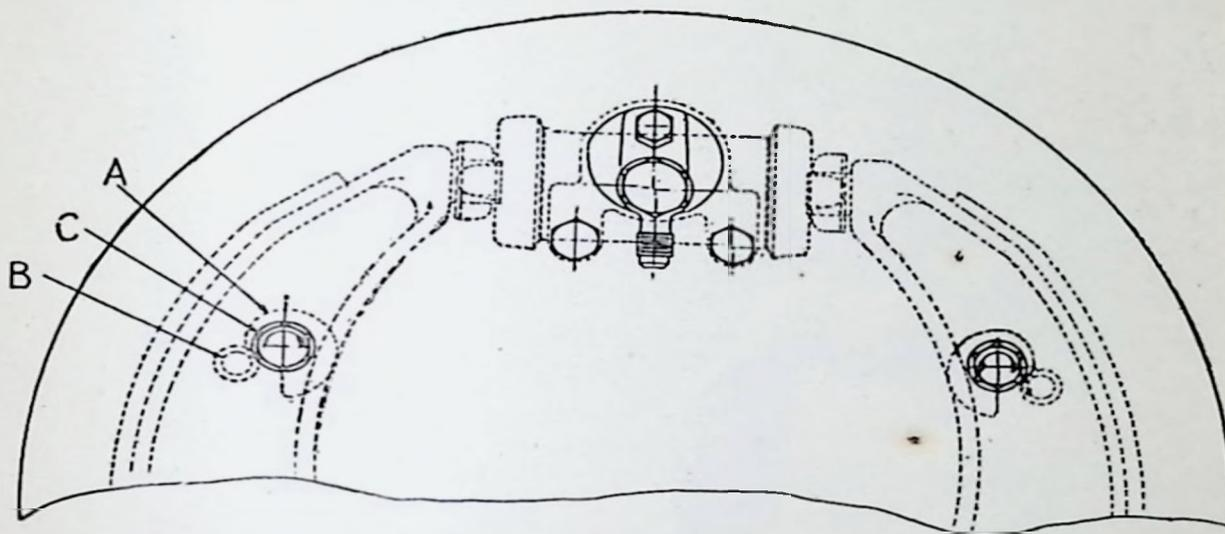

Fig. 5.
TO ADJUST BRAKES. When lining wear has reached a point where the foot pedal goes almost to the floor board, it becomes necessary to adjust the brake shoes into closer relation to the drums. Raise the car on a jack until the wheel is free. Adjustment is made by rotating the adjustment cam (A, Fig. 5) against a stop pin (B) on the shoe. Rotate the adjustment nut (C) with a wrench, until brake shoe comes into contact with drum. Then back off adjustment slightly, until the wheel rotates freely without any appreciable drag.